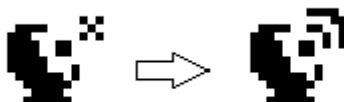

Fig. 21 GPS icons.
- The GPS module is ready when the icon in upper panel change – see on Fig. 21.